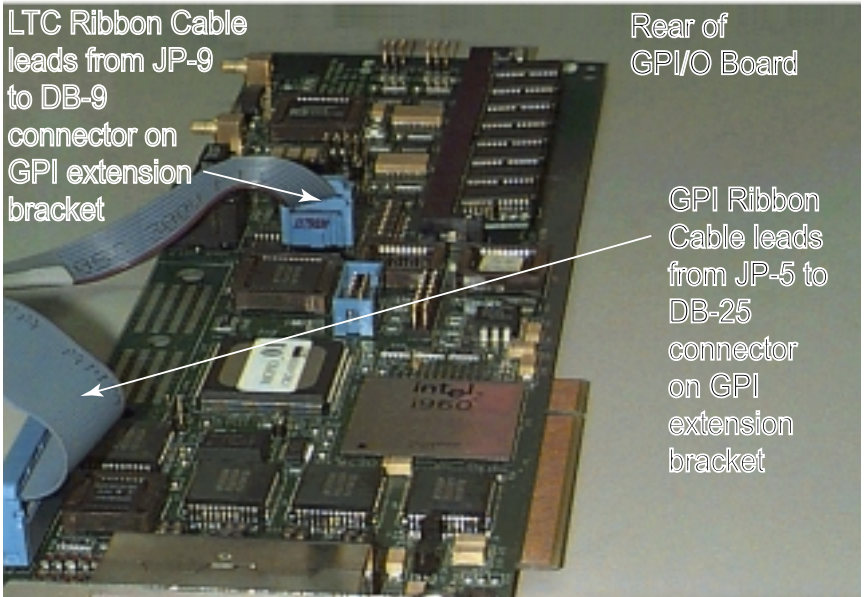

Figure 6-5. Proper LTC Cable Connection
- [] 3. Connect the smaller cable from the extension bracket's Linear Timecode connector to the 10-pin connector at JP-9 (see Figure 6-5).
NOTE: Be careful to connect the smaller ribbon cable to the connector at JP-9, just below the Debug port. **DO NOT** connect this cable to the shrouded connector at JP-7! (indicated by the strikeout mark in Figure 6-5).